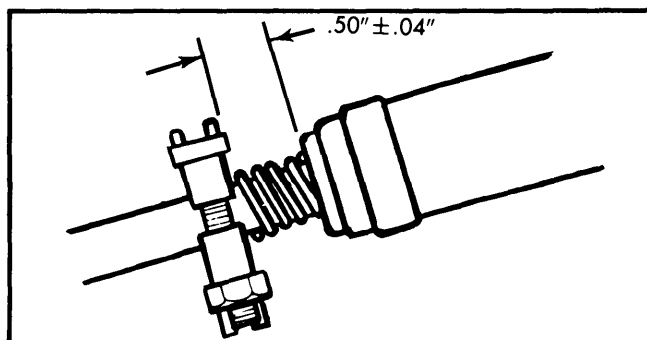

Fig. 13 Steering Column Lower Bearing Adjustment for "G" Models
7) Rework a shift tube removing tool (J-22551) by removing $\frac{1}{2}$ " from pilot end of tool as shown in Fig. 13. Remove shift tube assembly using reworked tool as follows: Insert hooked end of tool into notch in shift tube just below shift lever housing key. Pilot sleeve over threaded end of tool and into upper end of shift tube. Force shift tube out of housing by turning nut onto the tool. If shift tube is not completely free when nut is bottomed on its threads, complete removal by hand. On column shift models, guide lower shift lever through slotted opening in column to prevent damage to tube or column.